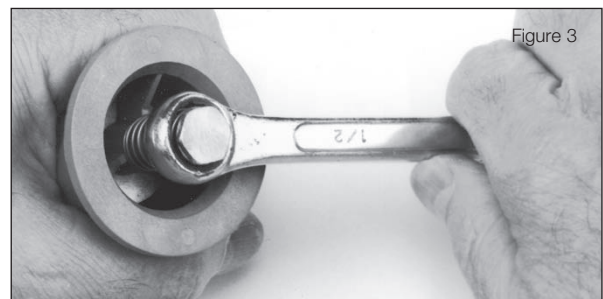

Figure 3
7. When check valve is out of the body grasp check valve disc holder and use a wrench or socket to unscrew the check valve stem from the disc holder (Figure 3).